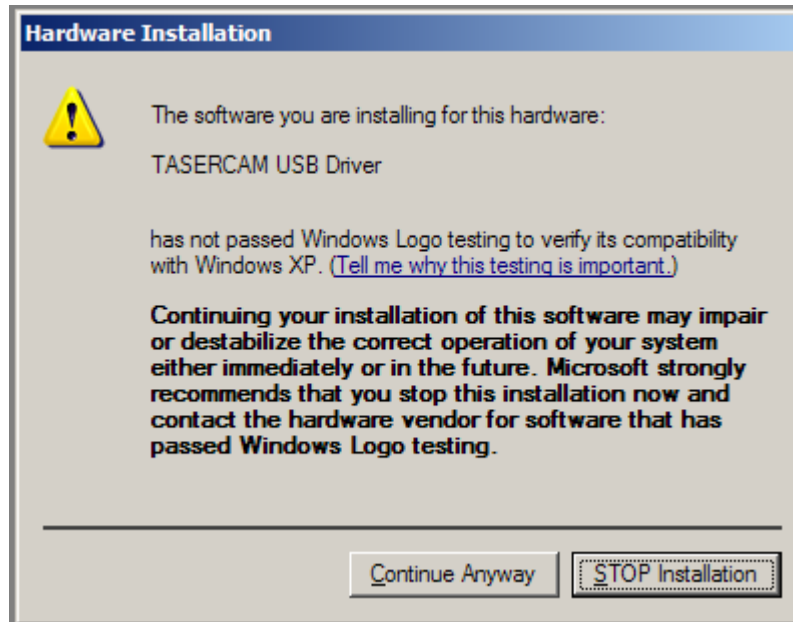

Figure 9
9. If you are running Windows XP or some versions of Windows 2000, you might see the following Hardware Installation screen (Figure 9) during the install process. Click **Continue Anyway** to continue the installation.